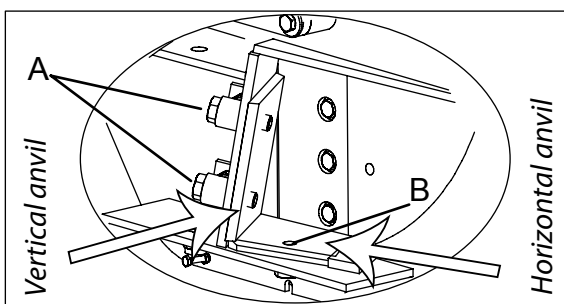

Fig. 25. Anvil fastening bolts
The chipper features both a vertical and horizontal anvil. To remove the anvils, open the fastening bolts (A) and (B) (M16). The horizontal anvil fastening bolt (B) is located below the feed opening. Fig. 25.